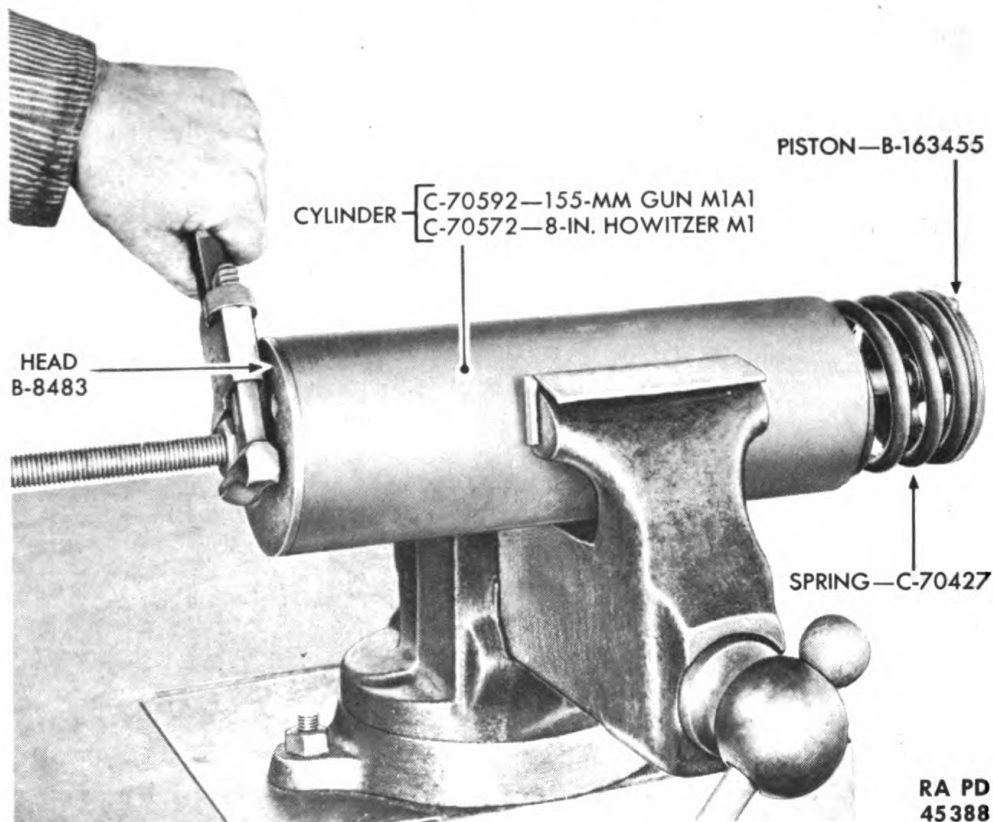

Figure 79—Releasing Counterbalance Spring
(4) Unscrew nut on extractor rod and release all compression from spring C70427 (fig. 79). **CAUTION:** Do not unscrew extractor rod from counterbalance piston as piston and spring will fly out with great force.
(5) After extractor nut is backed off from extractor rod to the point where all compression is off the counterbalance spring, unscrew and remove piston B163455 and pull spring C70427 the rest of the way out of the counterbalance cylinder.
(6) Pull extractor rod, nut, and washer from rear head B8483. Remove screw A25313. Unscrew and remove head B8483 from counterbalance cylinder with face spanner wrench B168043.
(2) Place counterbalance cylinder in a vise fitted with copper jaws. Screw counterbalance cylinder rear head into place with face spanner wrench B168043. Secure with headless set screw.
(3) Insert counterbalance spring in counterbalance cylinder. Screw improvised extractor rod into counterbalance piston. NOTE: Screw piston on the rod end having the short thread. Insert rod through spring and rear head.
(4) Place extractor rod washer on rod up against counterbalance rear head; then screw extractor rod nut up against rod washer. Tighten nut and draw spring and piston into counterbalance cylinder (fig. 79). NOTE: Line up lug or key on piston with slot on inside of cylinder.